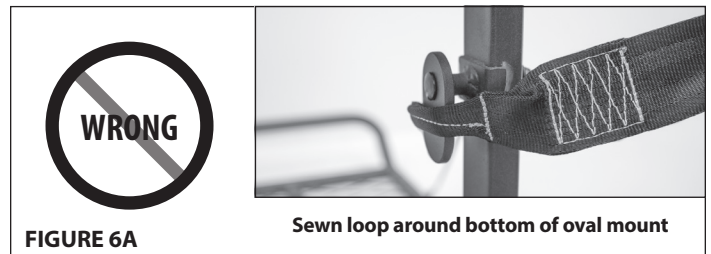

FIGURE 6A
3. It is critical that you secure the sewn loops of Big Foot strap to the oval mounts properly and securely, your life depends on it! **DO NOT** attach the sewn loops of the strap as shown in **FIGURES 6A and 6B** or any other incorrect fashion or you may be seriously injured or killed due to sudden release of an incorrectly attached strap/treestand to the tree!